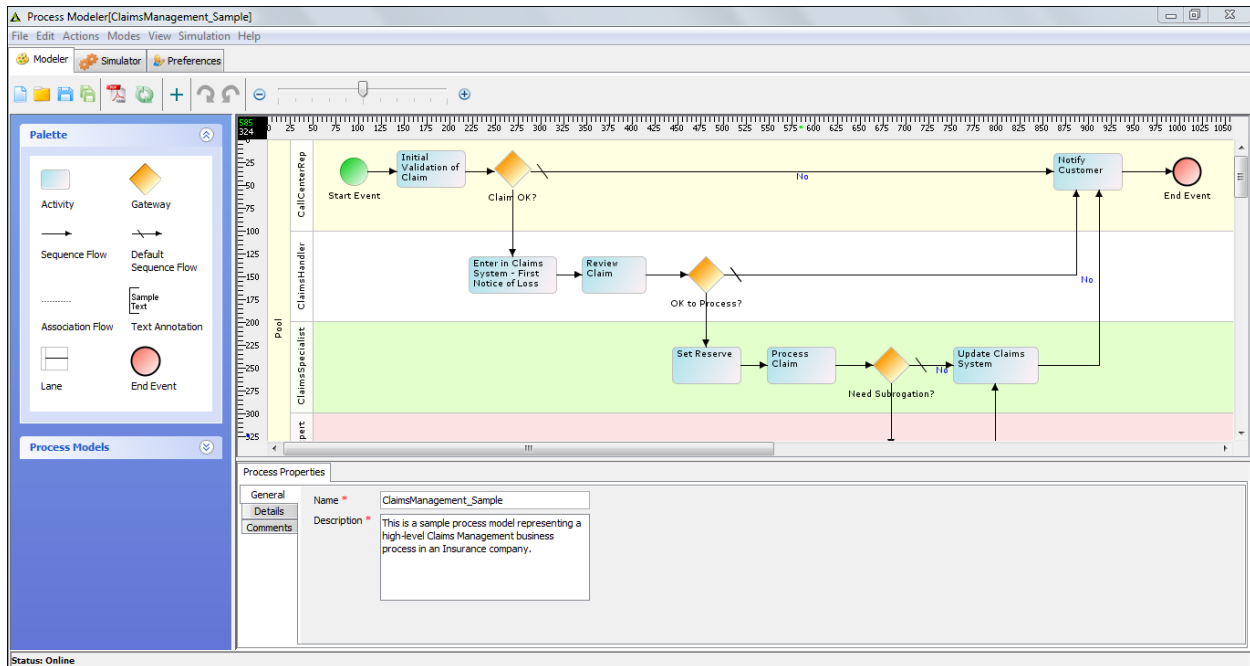

Figure 2: Process Modeler
5. Click **Process Modeler** button. The **Process Modeler** window is displayed (see Figure 2).